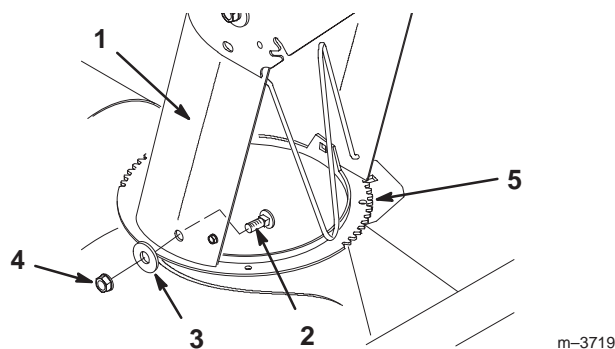

Figure 2
Install the discharge chute assembly onto the chute ring with (3) 5/16 x 3/4" (19 mm) carriage bolts (heads to the inside), (3) 5/16" (8 mm) washers and (3) 5/16" locknuts (Fig. 2).